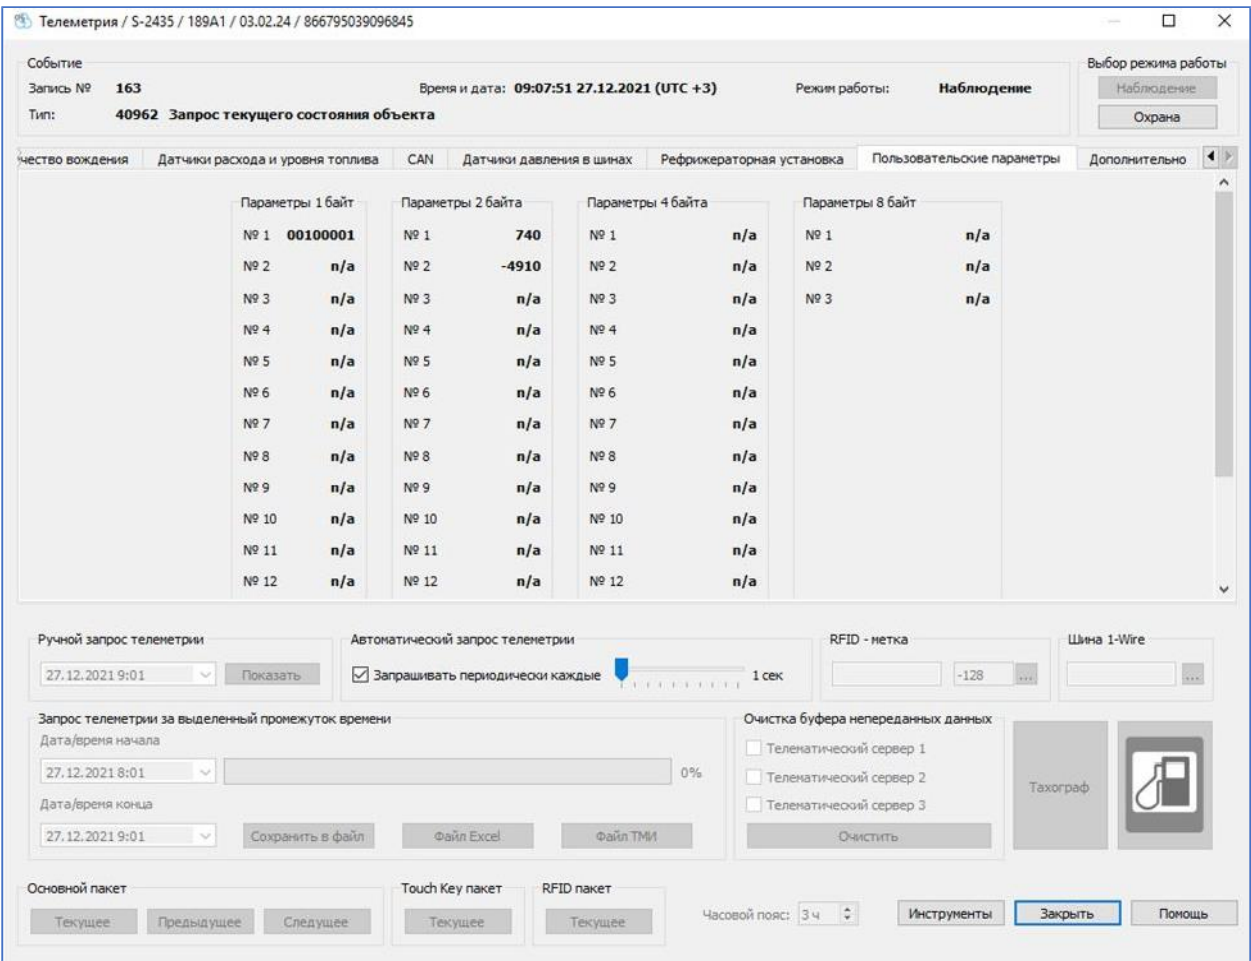

fig. 7.5. «Telemetry» tab of Navtelecom configurator
4) In the «Telemetry» tab of the Navtelecom configurator you can test the data readings (fig. 7.5).
2 byte parameter №1 – $100 * \text{angle X}$ (on fig. 7.5 value 7.4 degrees).
2 byte parameter №2 – $100 * \text{angle Y}$ (on fig 7.5 value -49.1 degrees).
On fig. 7.5 you can see that there is a Y-axis error in the sensor status in the bit №5. It occurs when the tilt angle of the sensor deviates from zero by more than 15 degrees. This option is convenient to use when you want to control an object standing on horizontal surface ground.